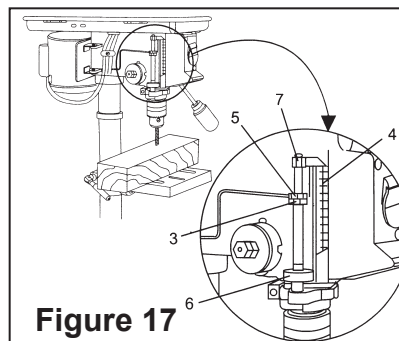

Figure 17
- D. Spin the lower nut (3) down to contact the depth stop lug (6) on the head (Figure 17).
- E. Spin the upper nut (5) down and tighten against the lower nut (3)(Figure 17).
### Depth scale method (Figure 17)